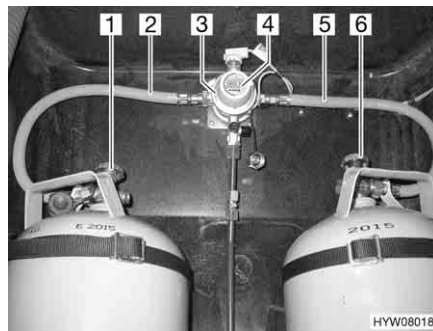
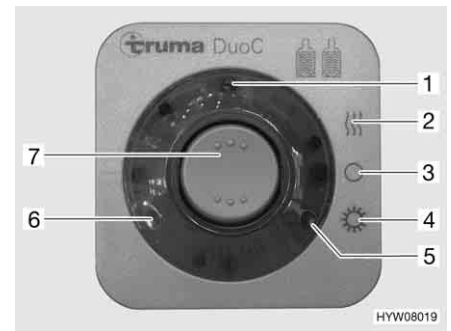

Fig. 84 DuoControl switching facility
Fig. 85 Operating unit
The DuoControl switching facility consists of a reversing valve (Fig. 84,3) and an operating unit (Fig. 85). The reversing valve is installed between the gas tubes (Fig. 84,2 and 5). The knob (Fig. 84,4) on the reversing valve is used to select which of the gas bottles is to be used as a primary bottle and which is to be used as a reserve bottle.
Only the electrical functions can be switched at the operating unit (Fig. 85). The regulator taps on the gas bottles (Fig. 84,1 and 6) must be opened manually.
The reversing valve provides a constant gas pressure, regardless of which gas bottle is being drawn upon. The two indicator lamps on the operating unit indicate the level of the primary bottle. When the green indicator lamp (Fig. 85,6) illuminates, the primary bottle is full. When the red indicator lamp (Fig. 85,5) illuminates, the primary bottle is empty. In this case, the reserve bottle is used for the gas supply.
- Open the regulator taps on the gas bottles (Fig. 84,1 and 6).
- Use the knob (Fig. 84,4) on the reversing valve (Fig. 84,3) to select the gas bottle which is to be the primary source of gas (primary bottle). Always turn the knob as far as it will go.
- Switch on the DuoControl switching facility at the operating unit (Fig. 85). To do so, set the rocker switch (Fig. 85,7) to winter operation "On and heating" (Fig. 85,2) or to summer operation "On" (Fig. 85,4). The reversing valve is now deaerated. The yellow indicator lamp (Fig. 85,1) illuminates if the winter operation has been selected and the regulator defroster is activated.
- Set the rocker switch (Fig. 85,7) to "O" (Fig. 85,3). The yellow indicator lamp (Fig. 85,1) goes out.
- Close the regulator taps on the gas bottles (Fig. 84,1 and 6).
Remote display The indicator lamps on the operating unit (Fig. 85,5 and 6) indicate in the vehicle interior whether the primary bottle is ready for operation.
Changing gas bottles If the green indicator lamp (Fig. 85,6) stops illuminating during operation and the red indicator lamp (Fig. 85,5) illuminates, the gas bottle selected as primary bottle is empty and needs to be changed. The reserve bottle continues supplying the gas appliances with gas.